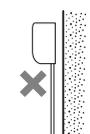

Figure 2
- Do not install the appliance away from the wall surface as shown in Figure 2.